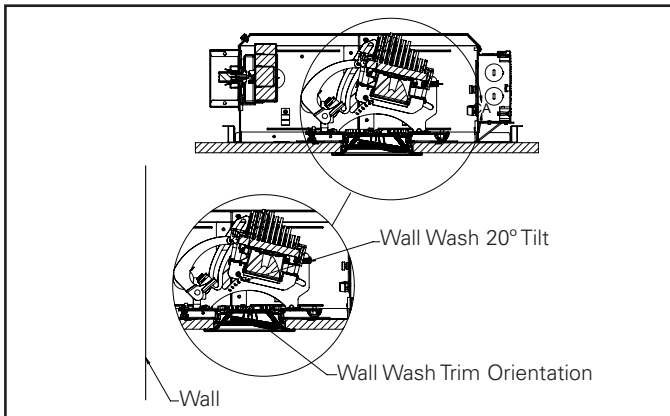

Figure 23.
For wall wash trims, the optimal condition is 15-degree tilt angle and 70-degree optic, and for double wall wash title angle should be 0-degree (Figure 23).
7. If using a wall wash trim or adjustable trim, the angle of the trim lens should align with the direction and angle of the mechanism head (Figure 23).